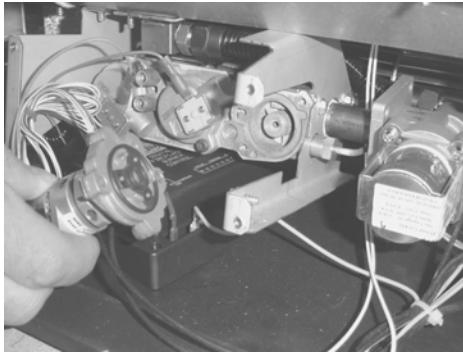
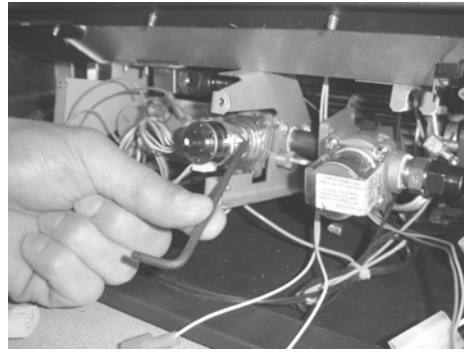

Figure 11
Figure 12
- 11 The stepper motor (adjustable regulator) has an installation sheet included with it – make sure to follow all of the directions. Place the stepper motor on the gas control valve (see Figure 11) – **MAKE SURE IT IS CORRECTLY ORIENTED.** Secure using the screws included with the motor (see Figure 12) – tighten to 25 Lb-inches. Leak test this area after installation to verify proper installation.